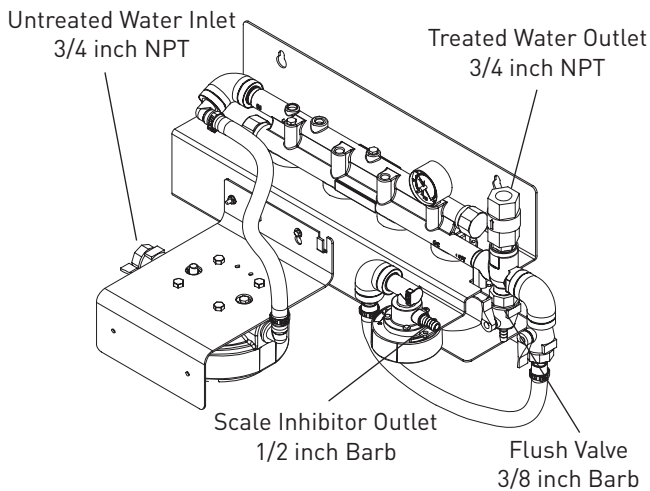

Figure 2
- Connect the treated water outlet port to the equipment being served (Figure 2).
- Connect the untreated water to the inlet fitting on the pretreatment head (Figure 2).
- Attach 3/8 inch I.D. tubing to the flush valve fitting (Figure 2). Run the other end of the tubing to a drain.
- Turn off the flow valves for the inlet, flush and scale inhibitor cartridge (2SR-BW)(Figure 2).